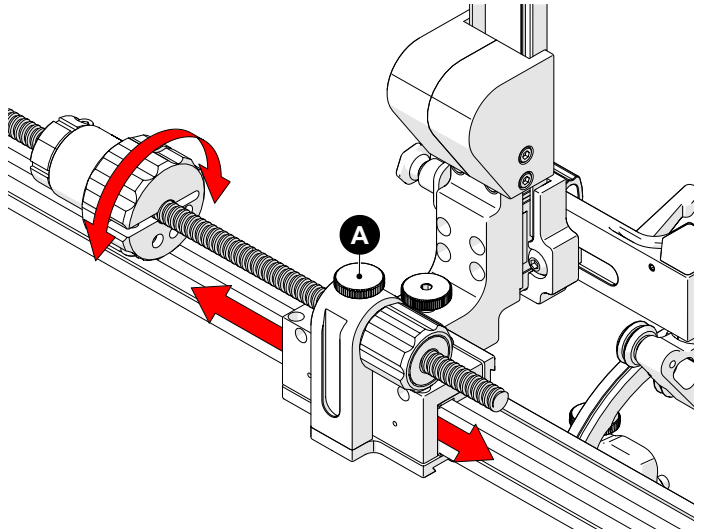

Fig. 103 - Slider positioning
1. Ensure the slider lock knob (*Fig. 103-A*) is tight and rotate the main knob to position the slider (*Fig. 103*).